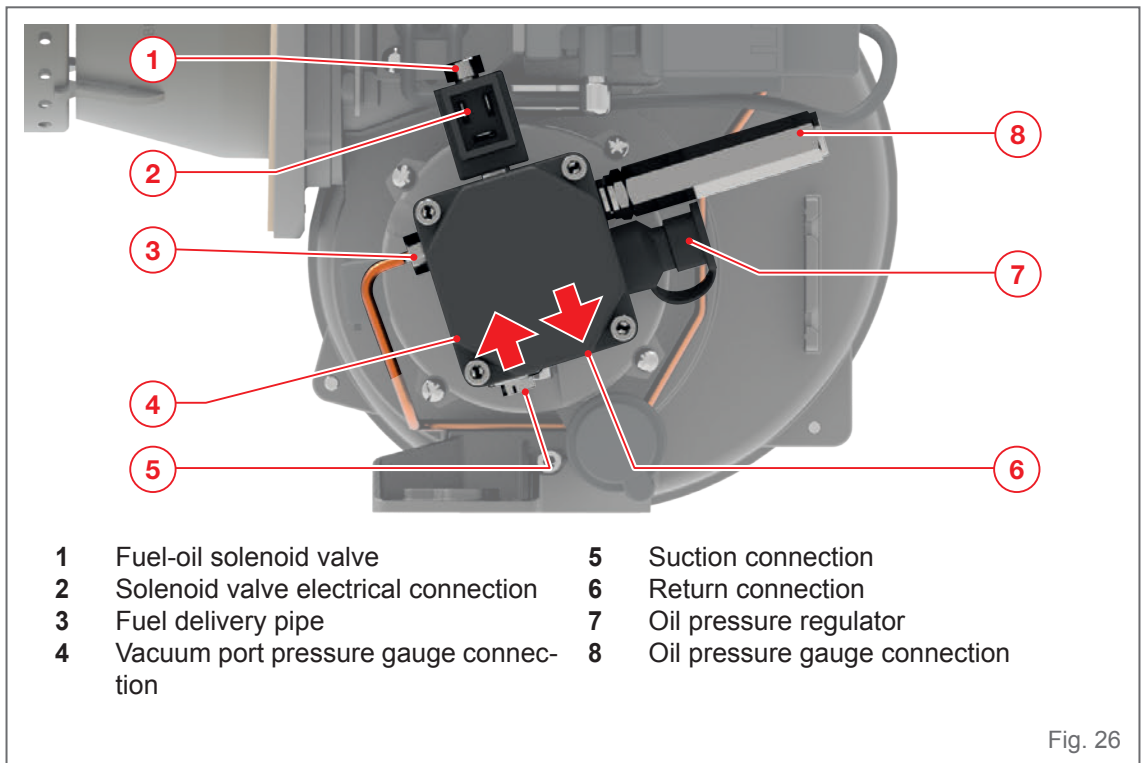

Fig. 26
The oil pressure, and therefore burner output, is adjusted using oil pressure regulator (7), see "Fig. 26", on the pump.